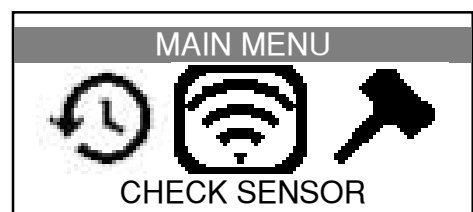

Fig. 4
- Then reverts to the **MAIN MENU** as Fig. 4.